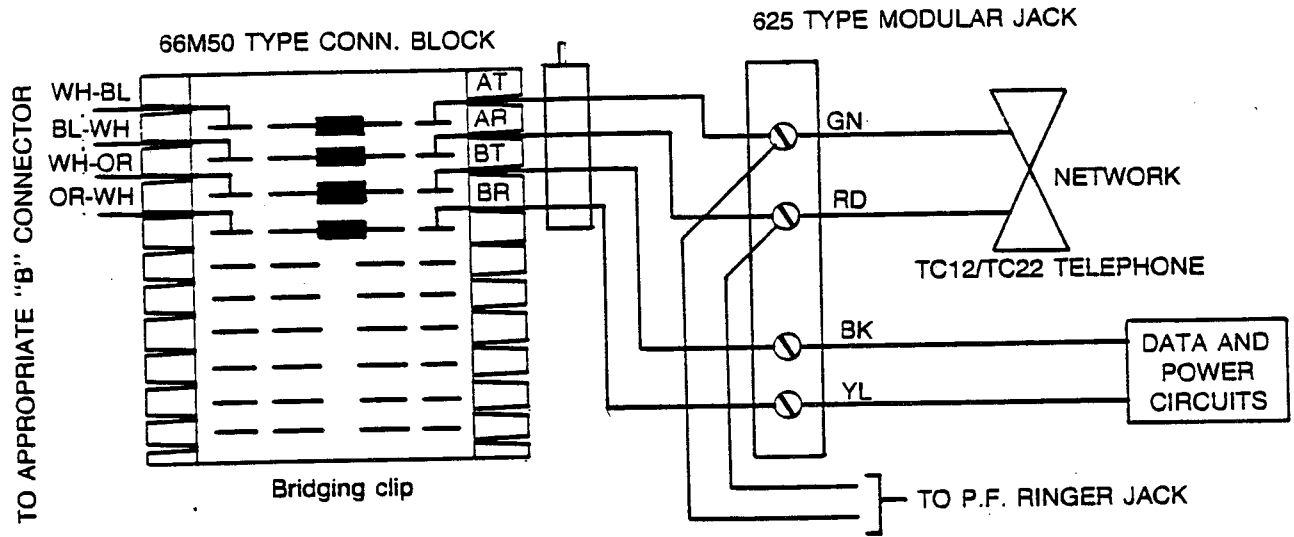

Figure 5-14 KSU TO STATION WIRING
6.06 Station cabling is terminated at the station blocks and the station jacks (Figure 5-14 and Table 5-1).
6.18 The PF ringer should be connected to the 1st pair (White-blue, AT/AR leads) of the station cable. Two modular jacks should be installed at the telephone location: one jack for the telephone and the other for the ringer (Figure 5-14). A Proctor single line electronic ringer (Proctor #43732) or any other FCC approved single line high voltage (40-150VAC) ringer can be used. The ringer should be suitable for dual-mounting and equipped with a modular plug.